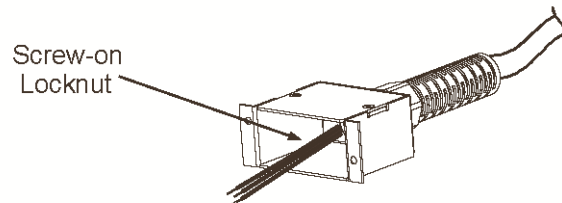

Fig.3-2: Stripped Wires installed in Strain Relief
- c) Slide the helix-shaped body onto the AC cable. Insert the stripped wires through the strain relief base until the outer cable jacket is flush with the edge of the base. Tighten 16-18 Lb-inch (18 - 20Nm) the body to the base while holding the cable in place. Now the cable is securely fastened inside the strain relief. Refer to Fig. 3-2.